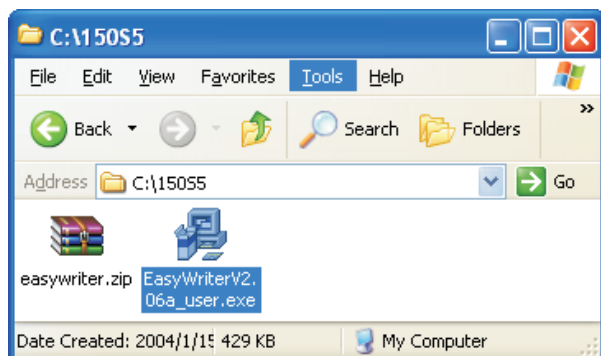

Fig. 3
Step 1 : Make a folder in your PC as shown in Fig. 3.
Step 2 : Copy ISP Software Easywriter zip into your folder as shown in Fig.3.
Step 3 : Unzip Easywriter.zip into your folder as shown in Fig. 3.